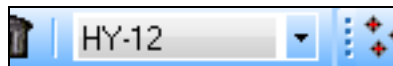

Figure 7 Model drop-down
10. Select “HY-12” from the model drop-down (Figure 7).